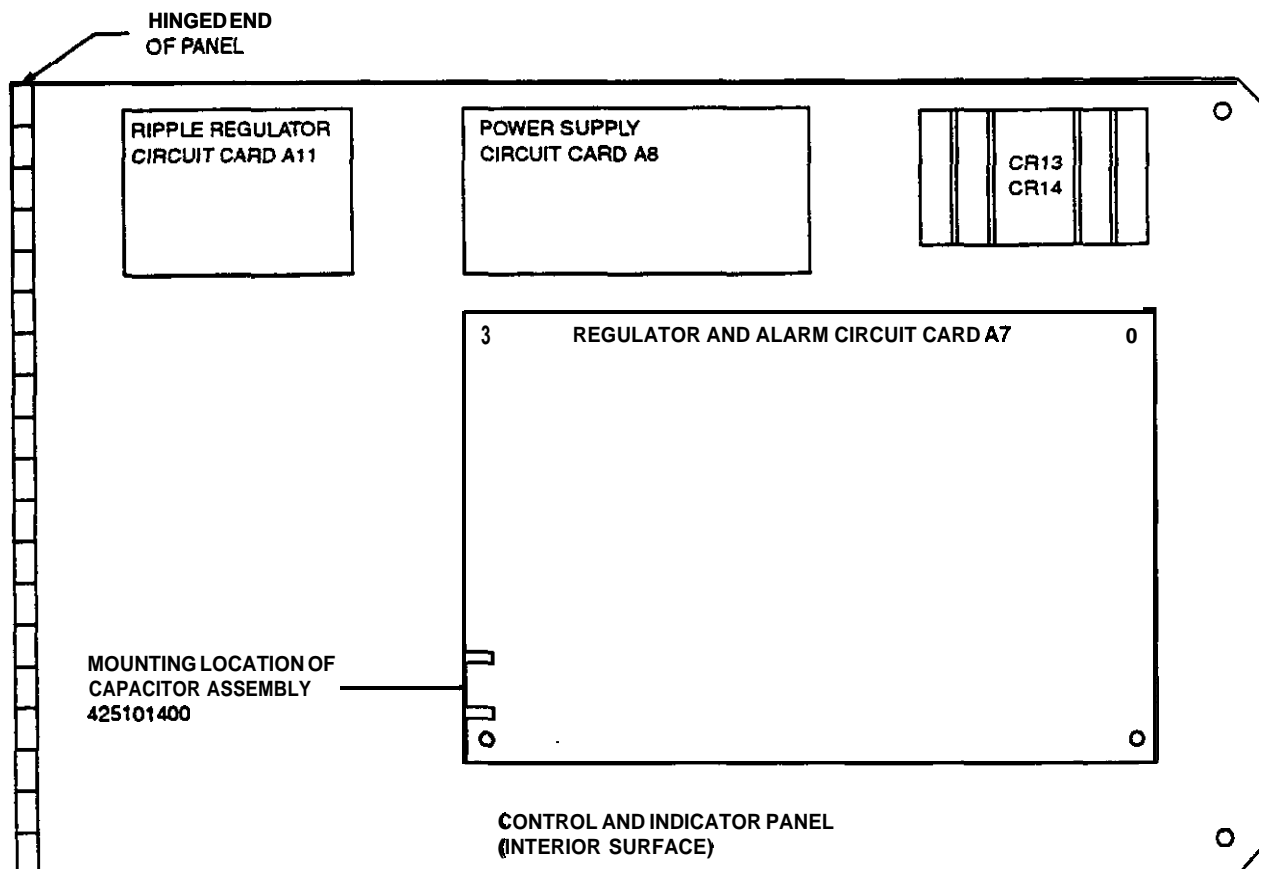

Figure 3-1. Capacitor Assembly Connector Location
- D) Install the M option capacitor assembly, Part No 4251-014-00, on the appropriate edge connector of regulator and alarm circuit card A7. Refer to Figure 3-1.